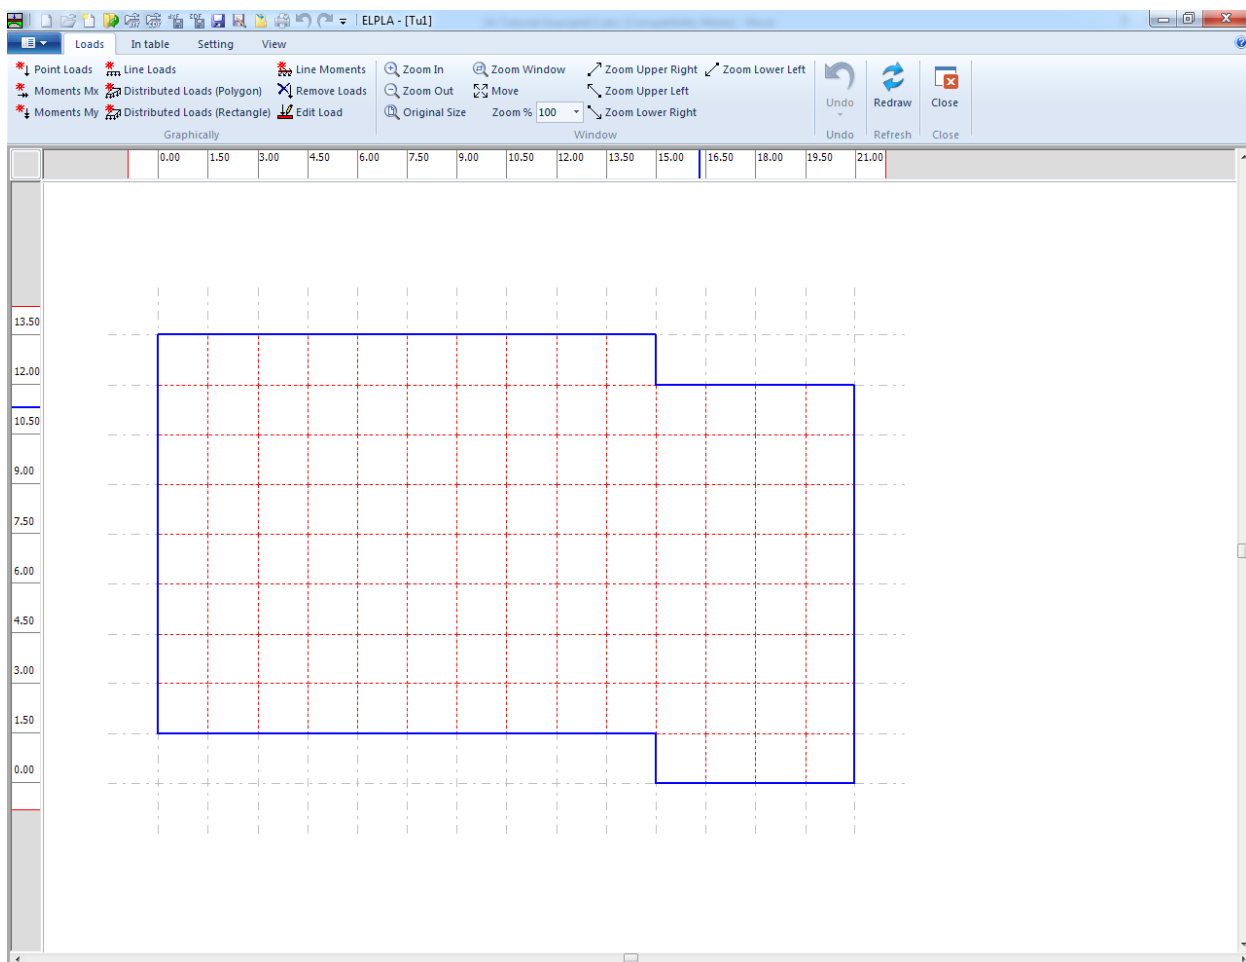
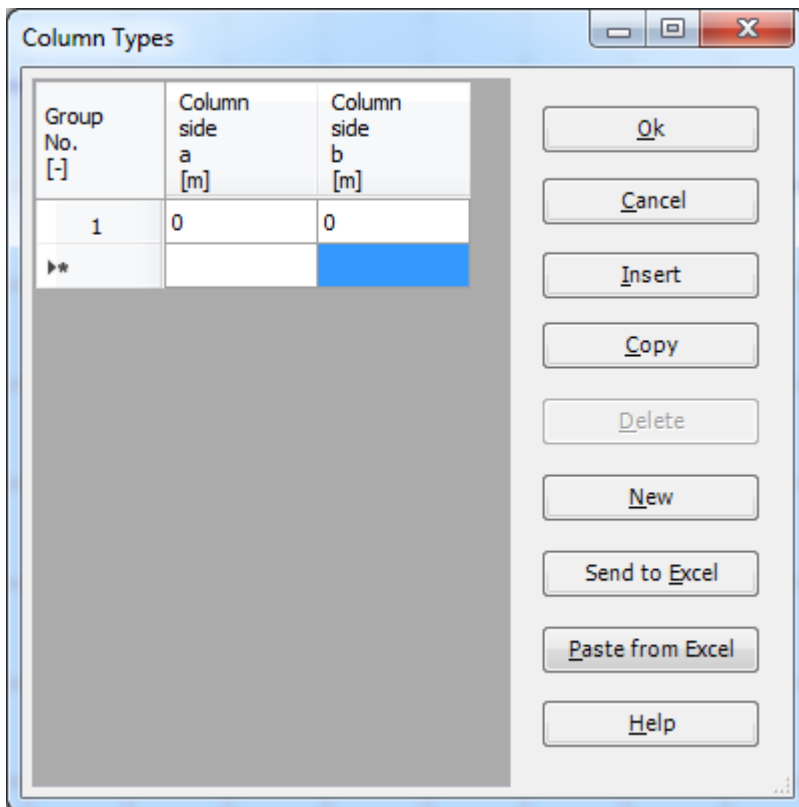

Figure 13.32 "Loads" window
Figure 13.33 "Column Types" list box
To define the loads, choose "Loads" command from "Data" Tab. The following Window in Figure 13.32 appears.
In *ELPLA*, entering loads may be carried out either numerically (in a table) or graphically using the commands of "Graphically" menu in Figure 13.32. In this example, the user will learn the definition of loads numerically.
- Choose "Column Types" command from "In table" menu in the window of Figure 13.32. The following list box in Figure 13.33 appears with default dimensions $a = 0.5$ [m] and $b = 0.5$ [m]
- Choose "Point Loads" command from "In table" menu in the window of Figure 13.32. The following list box in Figure 13.34 appears